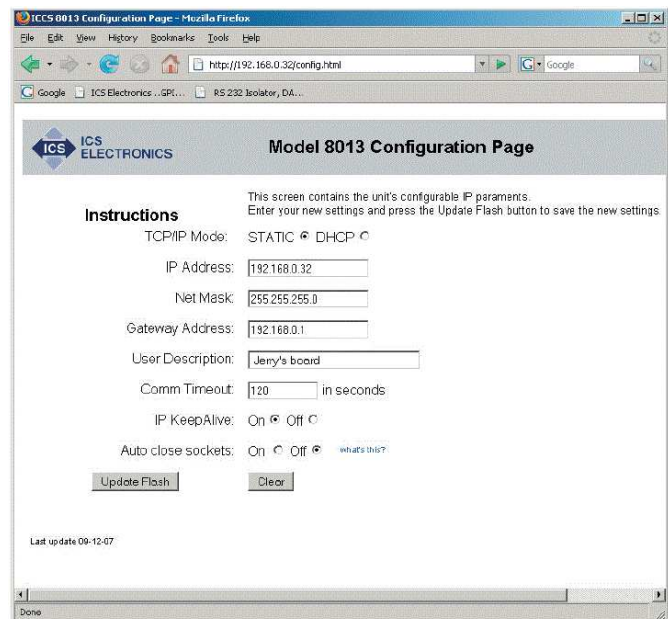

Figure 5.4 - 9006 Configuration Page
6. If you want to change any of the settings, press the 'Go to Configuration Page' key. A Configuration Page similar to the one shown in Figure 5.4 should appear in your browser.